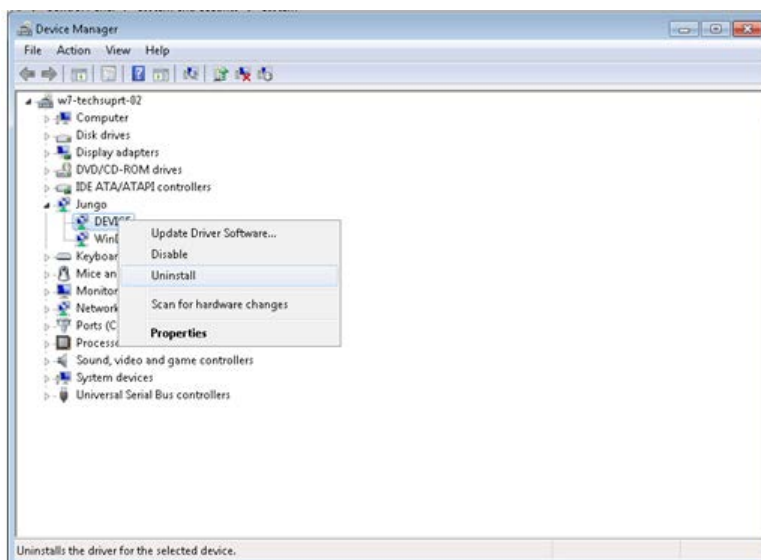

Figure 54 Device Uninstall
1. Power on the Host PC and open the Host PC Device Manager for PCIe device, as shown in Figure 54. If the PCIe device is not detected, power-cycle the SmartFusion2 Security Evaluation board. Right-click **PCIe Device** > **Scan for hardware changes** in Device Manager.
- a. Navigate to device manager and right-click **DEVICE** and select **Uninstall** as shown in Figure 54. The **Confirm Device Uninstall** dialog box is displayed.